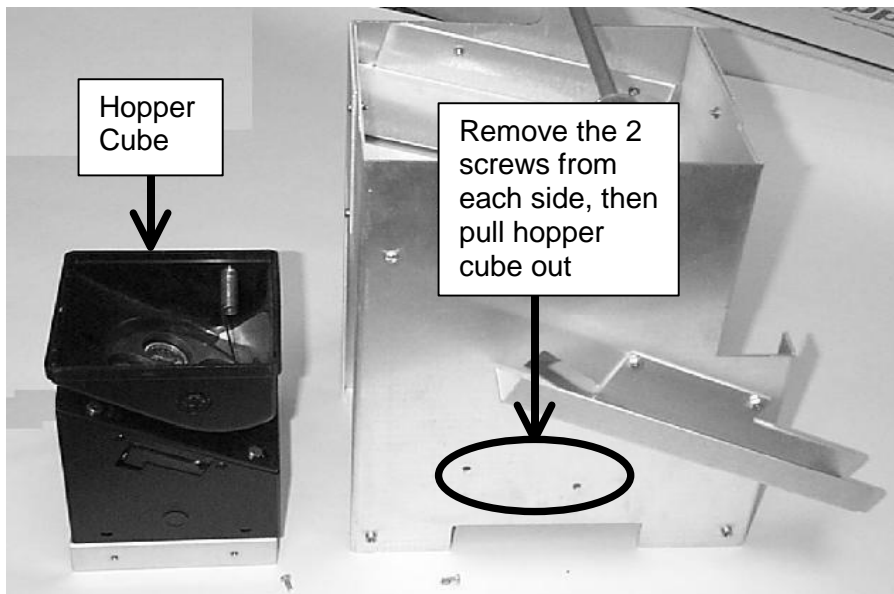

Figure 24. Hopper View - Side Screw and Internal Hopper - Cube
4. Once you have removed the hopper from the Wash Select II case, you can remove the two screws that are holding the black, plastic hopper cube. (See Figure 24, below.)